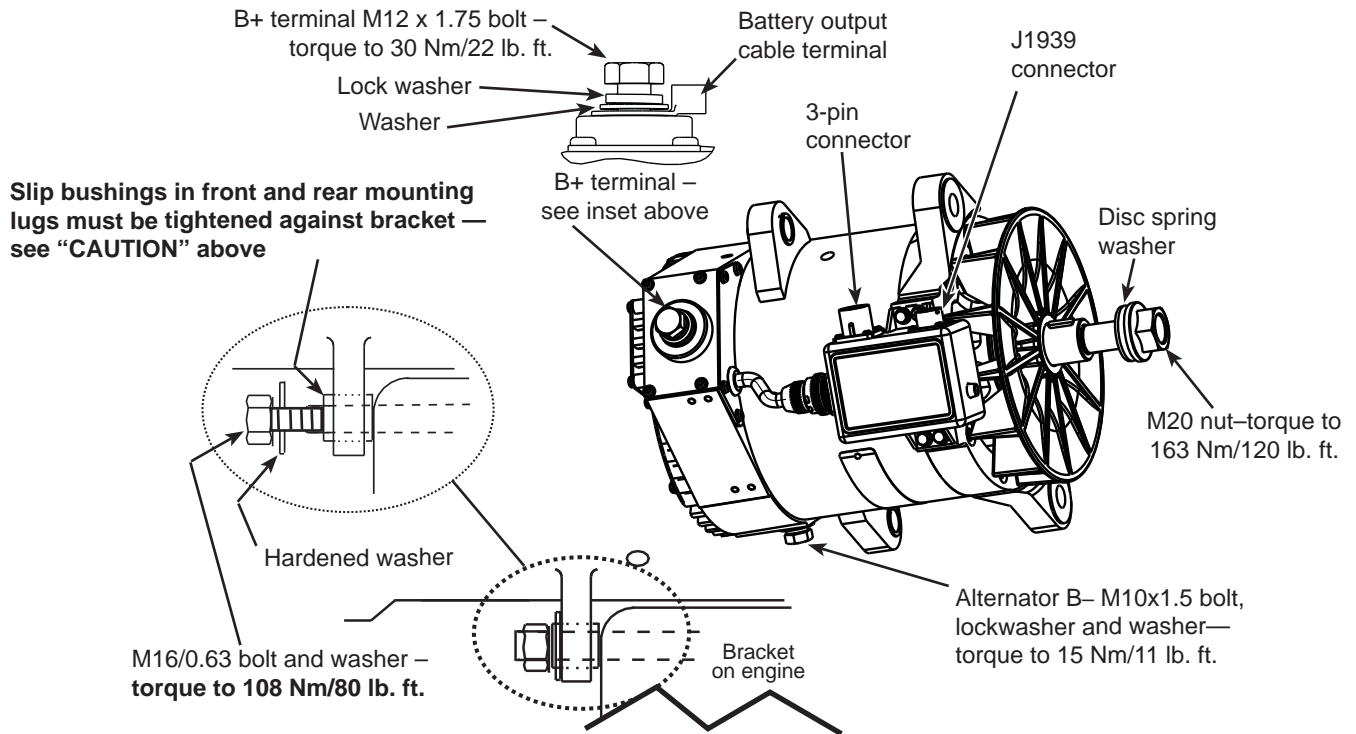

Figure 1 - C672 Alternator Installation Details
1. Install alternator as shown in Figure 1: